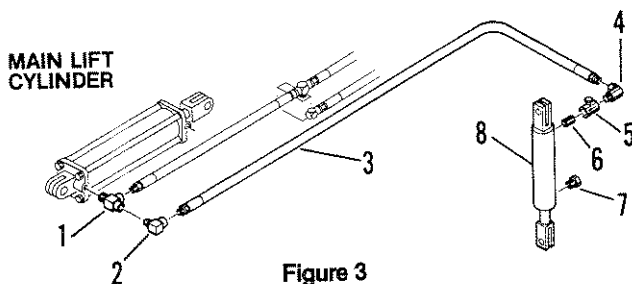

Figure 3
1. Replace existing fitting at cylinder-head port with $\frac{1}{2}$ " Service Tee (1) and 90° elbow (2) as shown in figure 3.
2. Install marker hose (3) and main lift hydraulic hose as shown.
Adjust the rate of rise of marker with Restrictor Valve, item 5, figure 3.